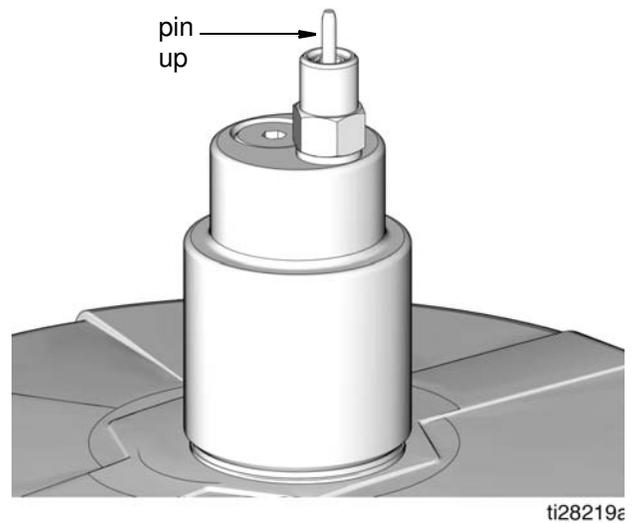

FIG. 27
2. Connect Supply Hose (J) at Quick Connect (V).
3. Turn on remote filling station pump (F) and fill the G3 reservoir (D) until the indicator pin on the Auto-Fill Valve pushes up as shown in FIG. 27. The pressure in the refill pump (F) builds and the pump stalls.